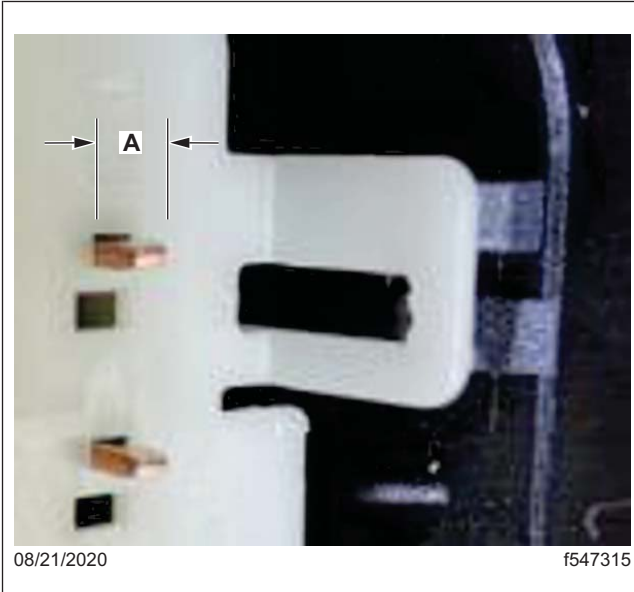
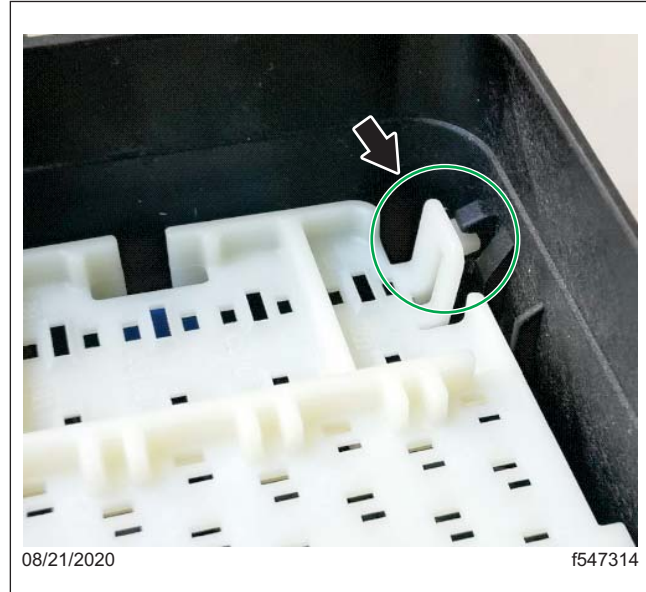

Fig. 5, Minimal Terminal Exposure
Fig. 6, Stabilizer Plate Lock in Pre-Stage Position
3. Ensure the terminal stabilizer plate in the 104-way pass-through connector is fully lifted. Terminal exposure should be minimal as shown in Fig. 5 and all four stabilizer plate locks should be in the pre-stage position as shown in Fig. 6.